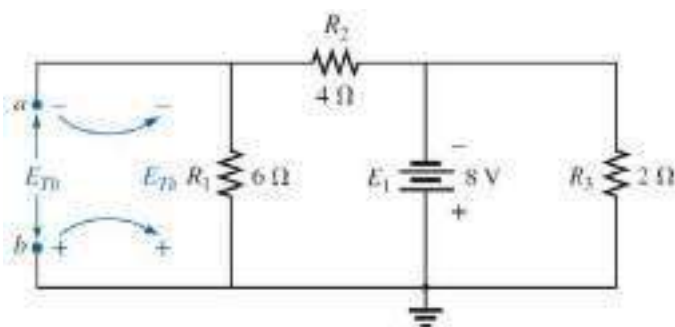
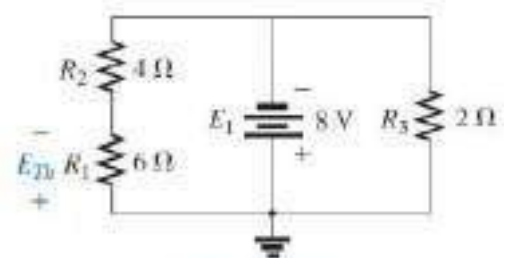

FIG. 9.40
FIG. 9.41
Network of Fig. 9.40 redrawn,
Step 4: See Fig. 9.40. In this case, the network can be redrawn as shown in Fig. 9.41. Since the voltage is the same across parallel elements, the voltage across the series resistors R_1 and R_2 is E_1 , or 8 V. Applying the voltage divider rule gives